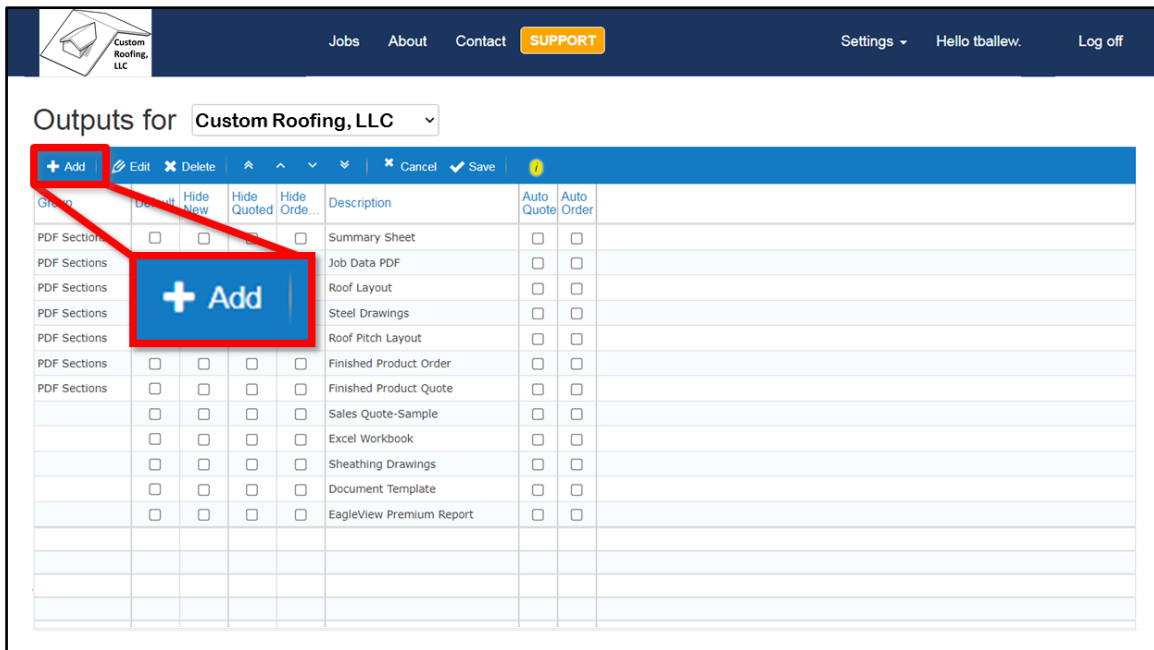

Figure 39: On the *Outputs Administration* page, click on the Add button to upload your new template.
- Your Roofing Passport *Outputs Administration* page will open, similar to the one pictured in **Figure 39** shown on the following page.
- On the command toolbar on the *Outputs Administration* page, click on the Add button, as shown in **Figure 39** below.